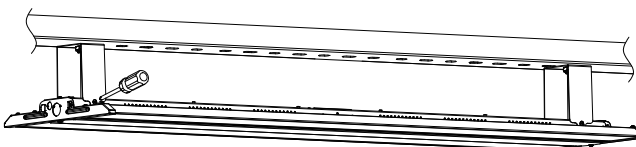

Figure 6
- Step2. Assemble the lamp on the bracket and fix it with screws (Figure 6);